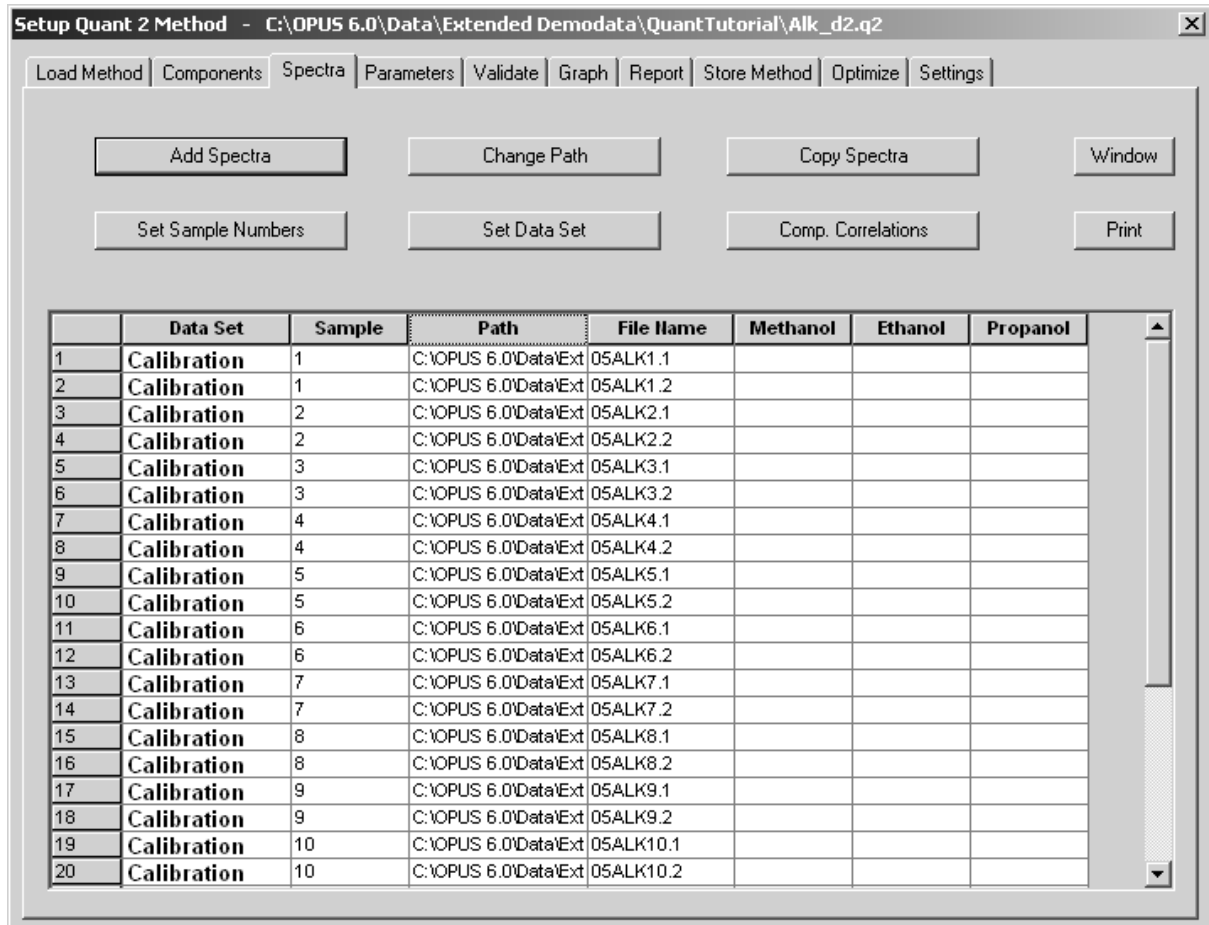

Figure 13: Setup Quant 2 Method – Spectra Page
- 2) As explained in chapter 3, a number of spectra has to be excluded from the calibration set that will serve as internal test samples. Specify the number of samples to exclude per cycle in the *No. of samples leaving out* field. For our example, use the default setting 1 (a “sample” might consist of several spectra, see figure 13).